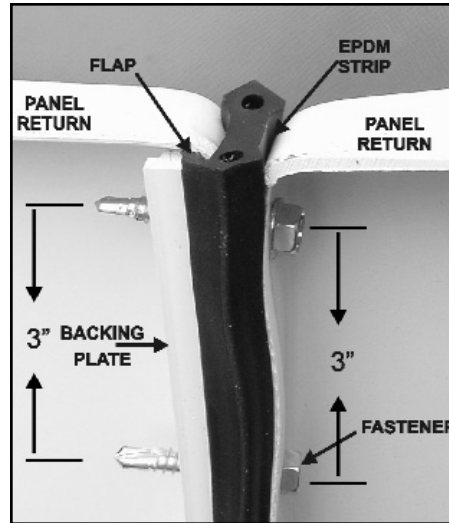

Figure 1A - Panel Joint Detail
2.3 Rubber Joint Composition - The fabricated liner panels shall be joined together by a slotted strip of EPDM rubber according to the manufacturer's specification as illustrated in Figure 1A.